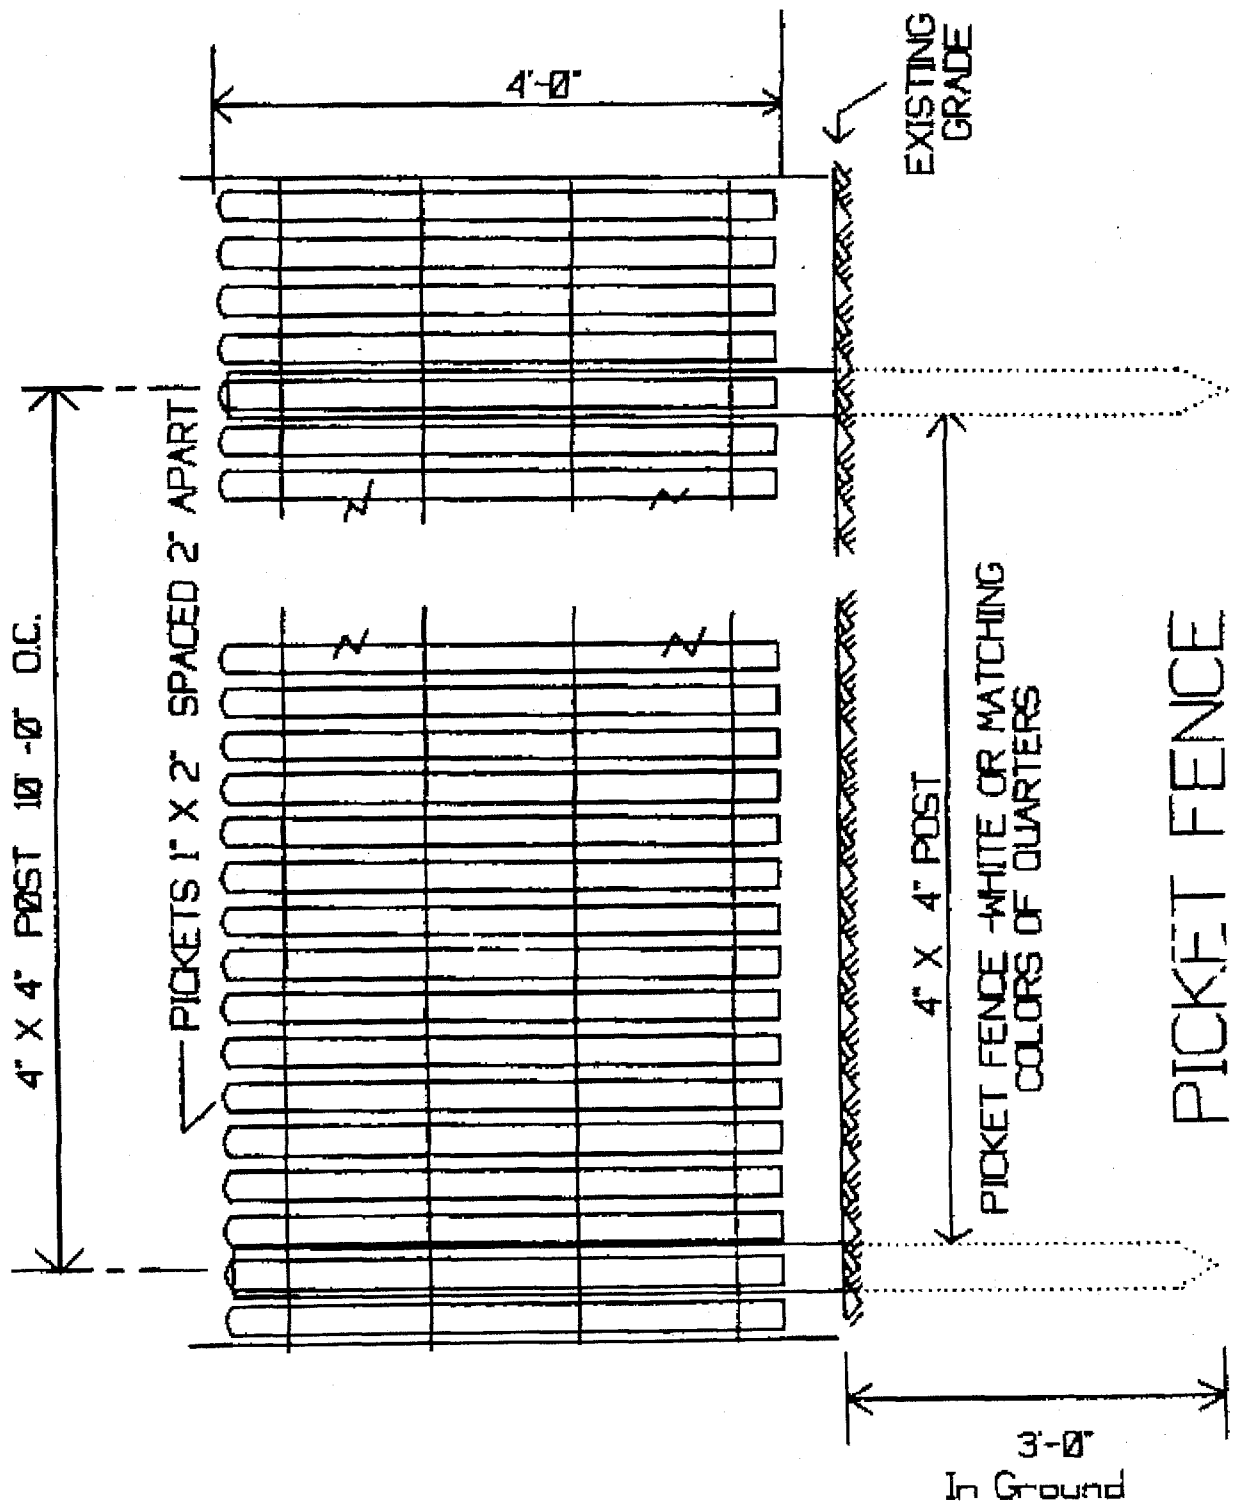

Figure A-1. Engineer Drawing F-11123 – Illustration of Picket Fence
(1) Picket type. Wood picket fences will conform to Engineer Drawing F-11123 (Figure A-1), be constructed with 1- by 2-inch wood pickets spaced 2 inches apart, and will be 4 feet in height. Pickets will have rounded tops with a diameter equal to the picket width. There will be no pointed tops. Wood picket fences will be painted with two coats of "exterior" paint, either white, natural wood color, or a color matching exterior trim on quarters.